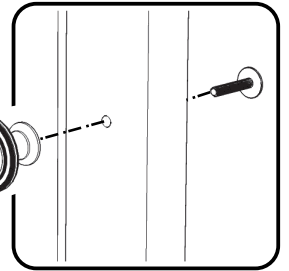

Figure 7
Attach Knobs to Doors (K) and (L) with Machine Screws. (See Figure 7)